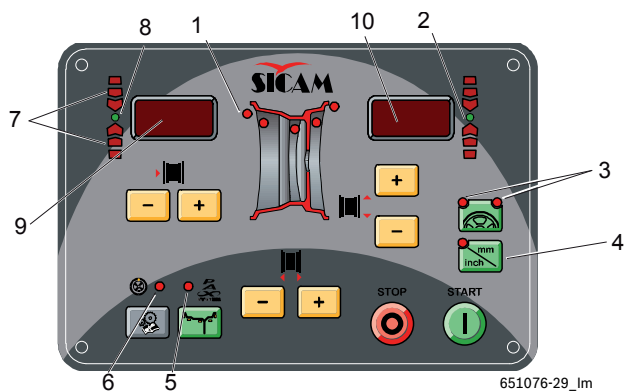

Fig. 9: LEDs on control/display panel
➔ The locations of the balancing planes for each balancing program are displayed through the LEDs (Fig. 9, pos. 1).
When a PAX balancing program is selected, the Pax LED (Fig. 9, Item 5) also lights up.